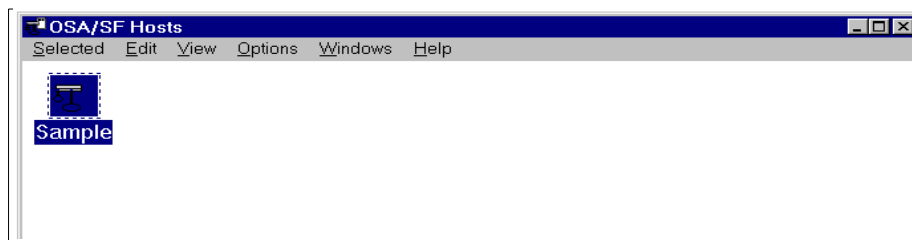

Figure 4-2 Initial OSA/SF display
1. Start the IBM OSA Support Facility program from Windows Programs to get the primary customization panel, as shown in Figure 4-2.